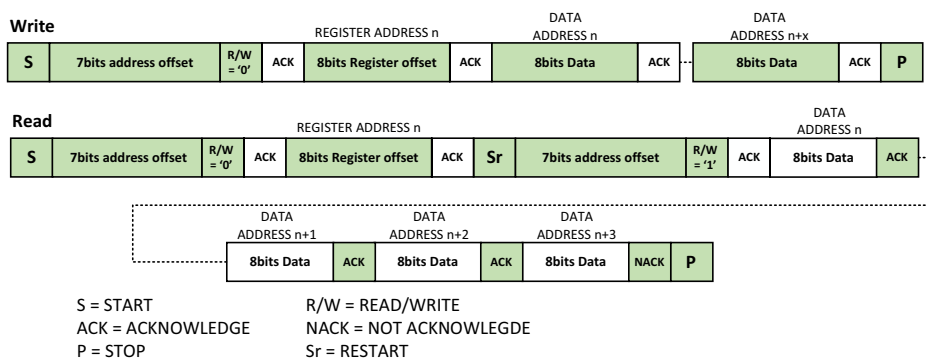

Figure 9: Read and write transmission
- If the master wants to end the transmission, it sends a NACK to notify the slave that the transmission is over, and then sends a stop bit (P).
- Both communications are described in the figure 9. Refer to Table 8 for all register addresses.